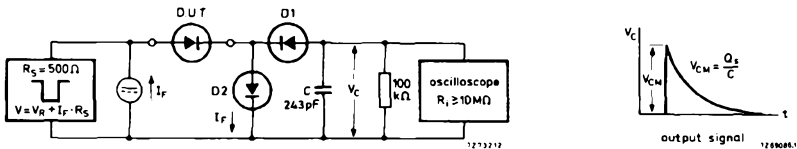

Fig. 4 Recovery charge test circuit and waveform.
**Recovery charge (see also Fig. 4)**